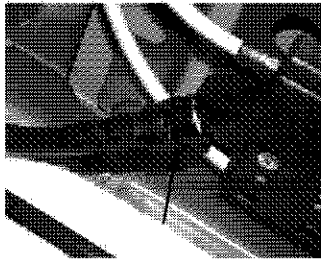

Figure 2— Correct Routing
1. After installing the extensions, make sure that the hose is routed in back of the air bag bracket. Figure 1 is the incorrect routing; Figure 2 shows the correct routing.